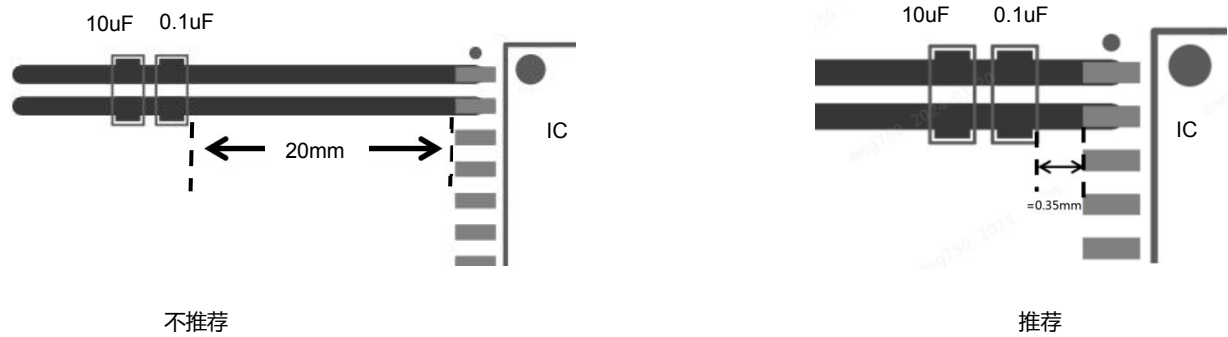

Figure 25-1
1. The decoupling capacitors (0.1uF) and energy storage capacitor (10uF) of VCC and GND1, VISO and GND2 should be placed as close the chip pins as possible to reduce loop area and parasitic inductance of PCB traces. General control should be 0.35mm. The decoupling capacitor is placed close the chip, and the energy storage capacitor is placed outside. As shown in Figure 25-1.